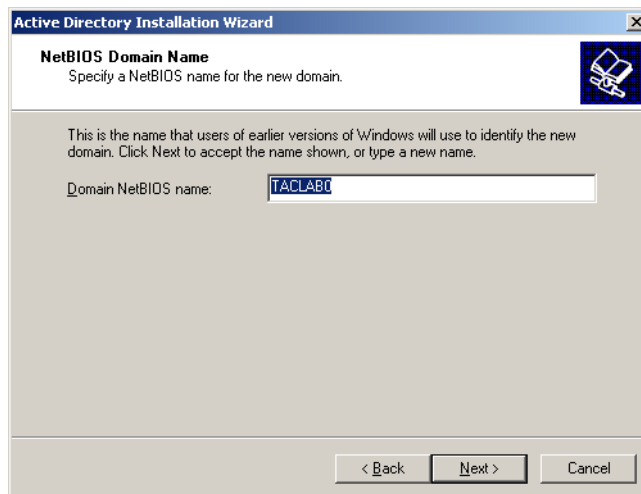

Figure D-11 NetBIOS domain name
13. In the **NetBIOS Domain Name** dialog shown in figure D-11, enter the NetBIOS name you have assigned to this domain. TACLAB0 is the NetBIOS name used in the example illustrated in figure D-11, but you should assign an appropriate name appropriate to your network. A NetBIOS name gives down-level compatibility.